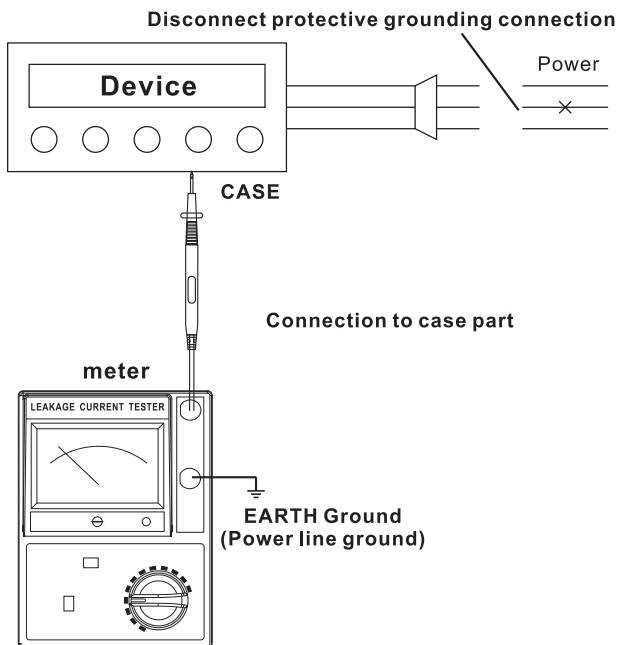

Figure 1
(2) Voltage measurement
(3) Leakage measurement
- c. Connect leakage current tester see figure 1 (TESTING DIAGRAM)
(4) CAUTION